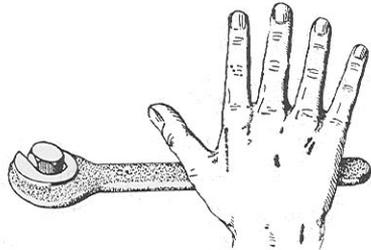

Fig. 10. Slight Bumping with Hand
2. A quick jerk, when tightening a bolt, or a blow with the ball of the hand when loosening a nut or bolt, Fig. 10, is often more effective than a steady pull.